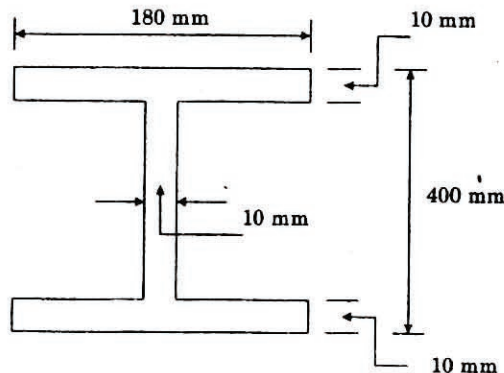

Fig 4
- (b) Fig. 4 shows the cross-section of a cantilever beam of 2.5 m . span. Material used is steel for which maximum permissible stress is 150 N/mm^2 . What is the maximum uniformly distributed load this beam can carry ?